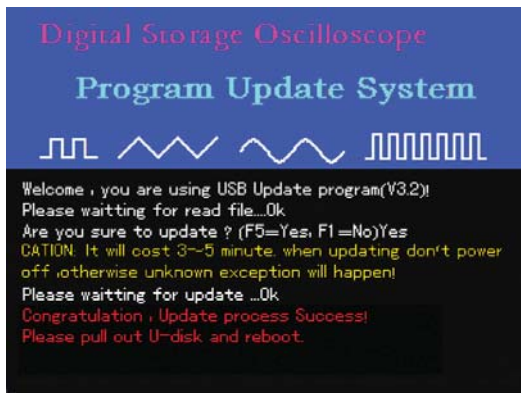

Figure 5-5
6. When upgrade progress reaches 100%, display will change to OK to indicate success of the current program upgrade task. A successful upgrade prompt as shown in Figure 5-5 will appear: "Congratulations, Update process Success! Please pull out U-disk and reboot."